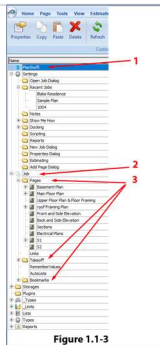

Figure 3
7. This window shows the complete back end of the PlanSwift structure, which shows everything from your jobs, your storages, your plug-ins, and your types. These are the most commonly utilized items when you're developing against anything within PlanSwift. The structure always starts at PlanSwift, which is the parent, or the root object, for everything that you want to access (see 1 of Figure 3). Each of the folders beneath PlanSwift is a child of PlanSwift. Click on the + to the left of **Job** folder (number #2 of Figure 3) to open the Job folder, which will display the **Pages**, **Takeoff**, and **Bookmarks** (see number #3 of Figure 3). This Job folder contains the current active Job that is loaded into PlanSwift. When programming, in order to access job information in the Job folder, use the relative path of **\Job** to access the Job folder. Under the **\Job** folder, you will see **Pages**, **Takeoff**, and **Bookmarks**. If no job is loaded, then the job's value will be Null. **Pages** items reside in the **\Job\Pages**; **Bookmarks** items reside in the U-T-H **\Job\Bookmarks** folder. The PlanSwift Pages information resides in the U-T-H **\Job\Pages** folder. The PlanSwift **Estimating** tab information resides in the U-T-H **\Job\Takeoff** folder.